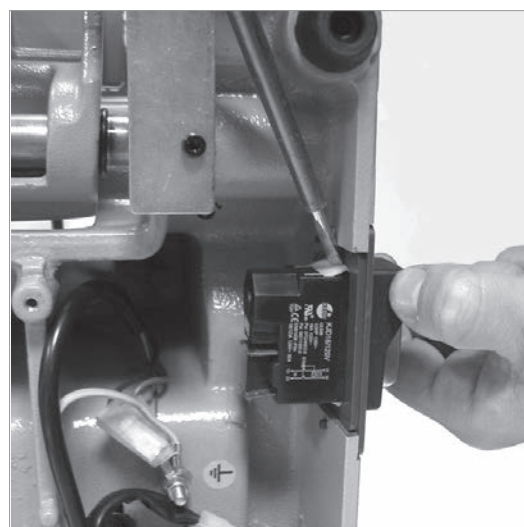

Fig. 38
- 3) Remove the switch making pressure on the tabs with a screwdriver (Fig. 38).
- 2) Disconnect the 2 connectors (H2). Loosen the nut (T1) and disconnect the earthing wire (Fig.38).